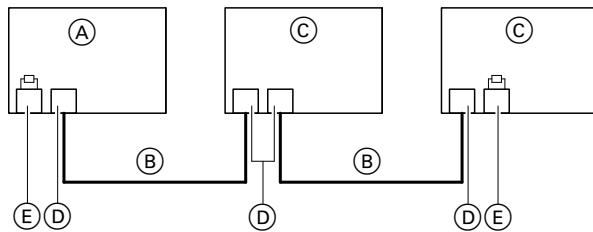

Fig. 55
- The appliance CAN bus is designed for "line" bus topology with a terminator at both ends: See Fig. 55.